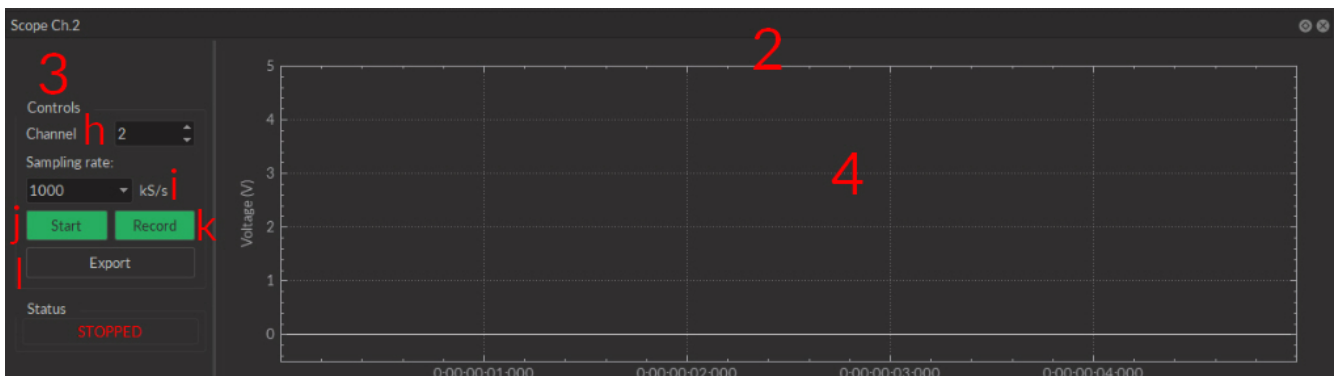

Figure 3.14: Experiment View, Scope Channel
2. The **Scope Channel** box (Fig. 3.14) is used to control and configure an active **Scope**.